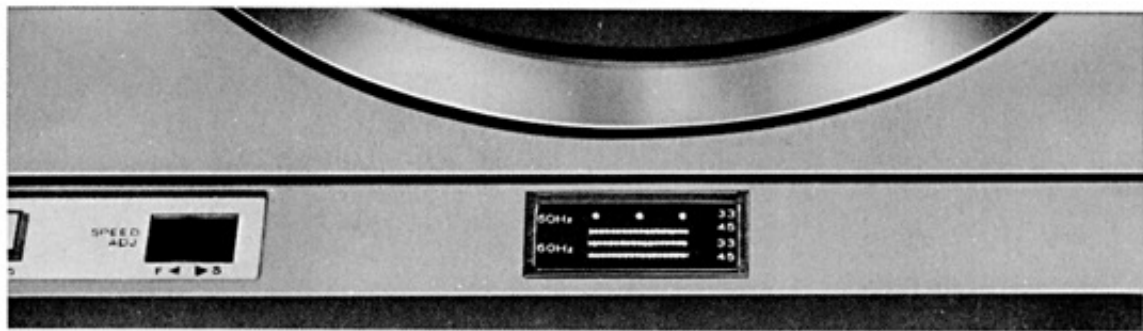

Fig. 5(A)
Four separate sets of bars have been placed on the inner rim of the turntable platter to aid in the precise speed adjustment of either of the two speeds when operating from an AC power source of 50 Hz or 60 Hz. See Fig. 5(B). These bars are illuminated in the area shown in Fig. 5(A). Fig. 5(C) shows the action of the speed adjustment control. To check and adjust the speed, set the turntable in motion (preferably during the actual playing of a record), and view the appropriate set of bars for the speed and power source being used, as indicated in Fig. 5(B). If the bars appear stationary, turntable speed is precisely correct. If the bars drift either to the left or right, the turntable speed is not correct and the speed control should be used to bring the bars into a stationary condition. If the bars drift to the left, speed is too fast; if the bars drift to the right, speed is too slow. The direction in which the speed controls should be turned to correct for fast or slow speed is indicated in Fig. 5(C).